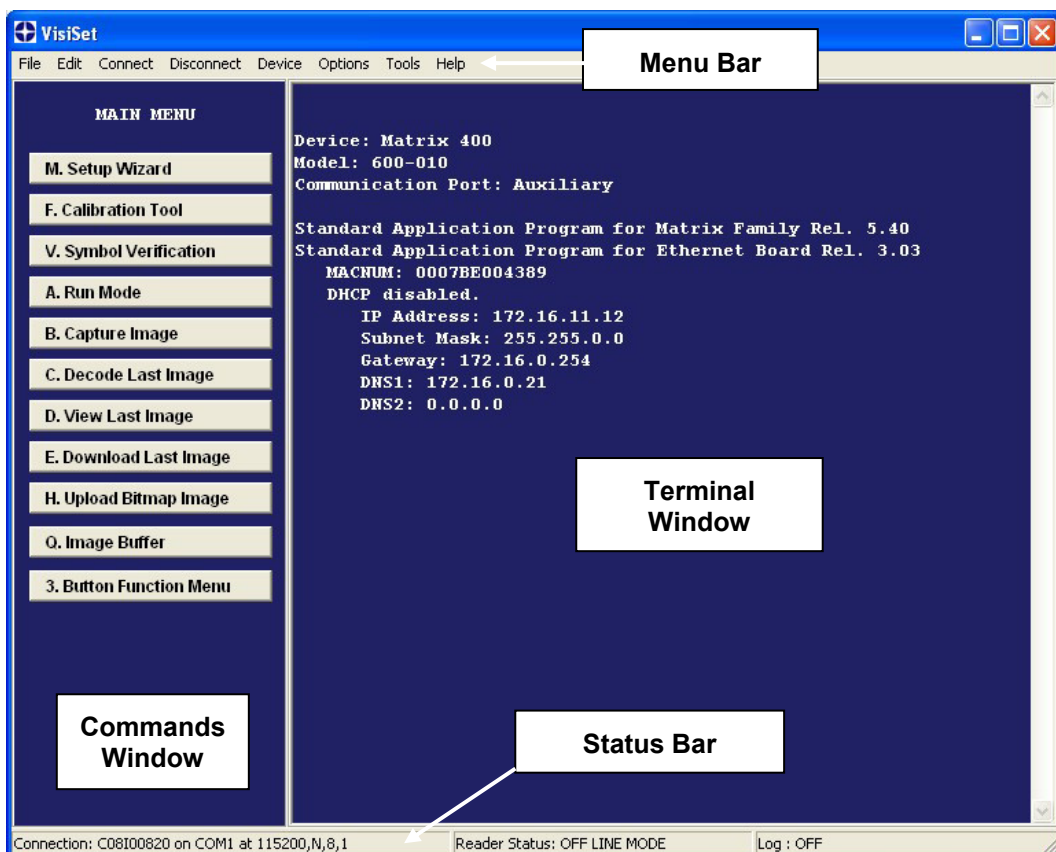

Figure 118 - Main Window
Upon connection, Matrix 400™ exits Run Mode and displays the Main Menu on VisiSet™ with all the commands necessary to monitor your reader's performance. You can select these commands using the mouse or by pressing the key corresponding to the letter shown on the button. See Figure 118.
The **Options** item from the VisiSet™ menu (see Figure 118) presents a window allowing you to configure:
6. Close the Parameter Setup window and press **Disconnect** on the VisiSet™ menu bar (see Figure 118) or launch **Run** Mode from the VisiSet™ Main menu.